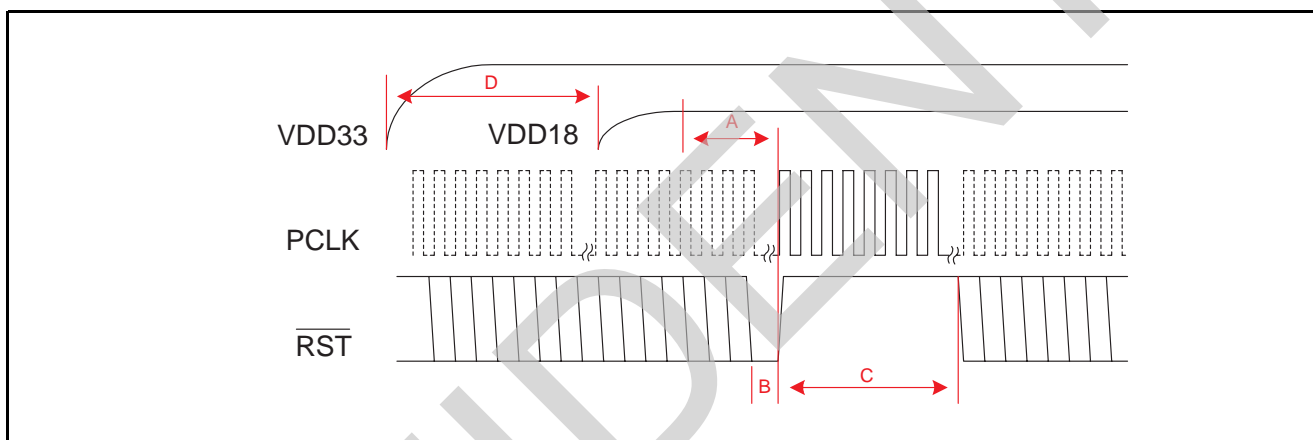

Figure 16 - Reset Sequence when VDD33 and VDD18 are Powered Up Separately
If VDD33 and VDD18 power supplies are powered up separately, refer to Figure 16. For this sequence, VDD33 is powered up shortly before VDD18 is powered up (period D). Reset can be held high or low at power-up; PCLK can be running or turned off initially. After VDD18 is powered up and stabilized, a short reset (B) needs to be asserted (within period A). When reset is de-asserted, PCLK must be running and main device initialization functions can now proceed.
If VDD33 and VDD18 power supplies are powered up at the same time, refer to Figure 16. For this sequence, reset must be held low at power-up; PCLK can be running or turned off initially. After the supplies have stabilized, reset needs to be de-asserted (within period A). At this point PCLK must be running and main device initialization functions can now proceed.